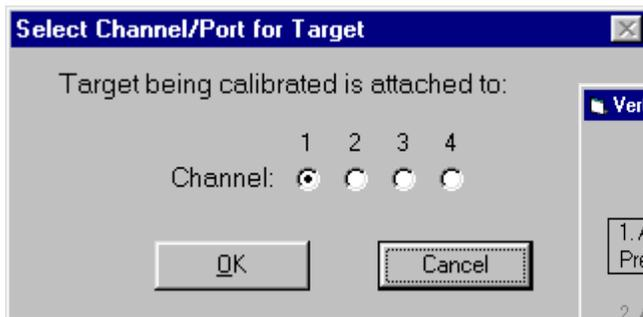
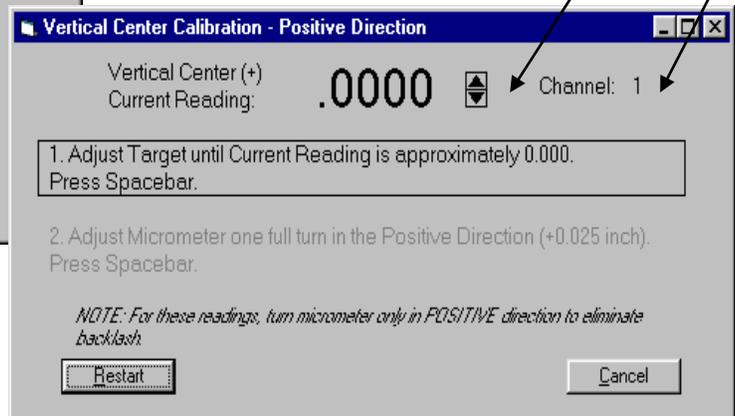

Figure 50 – Channel/Port Selection Screen
Figure 51 – Calibration Screen
The Select Channel/Port for Target menu displays (see Figure 50). Select the channel or the port to which the target is attached and click **OK**. The Calibration Screen displays and indicates the Port or Channel selected (see right arrow in Figure 51).
- The double arrows next to the reading are visible only in Manual Data mode and are not available when actual targets are being read (see left arrow in Figure 51).
- 1. For the first reading, (in this case V+), center the target using the centering micrometer. This corresponds to Step 1 on the Calibration Screen (see Figure 51).**